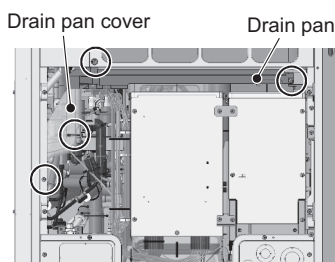

Figure 3
- (3) Remove the drain cover by unscrewing the screw and cutting the cable tie. (See Figures 3 and 4.)